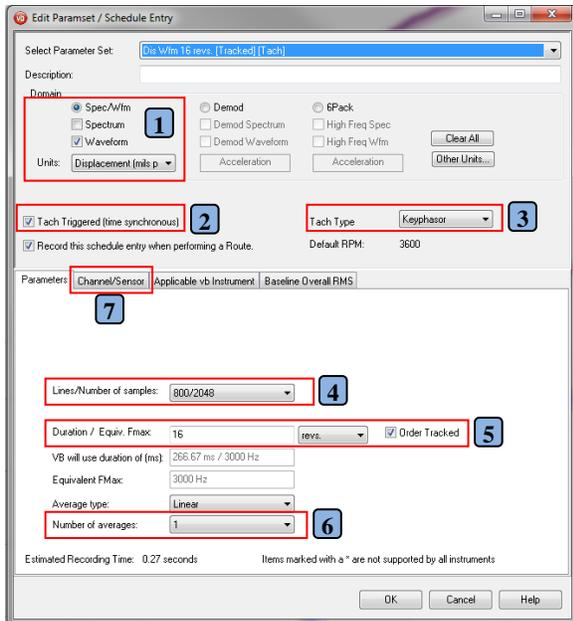

Figure 2: “Schedule Entry” Configuration
4. Configure **“Schedule Entry”** [Waveform/Spectrum]. See **Figure 2**.
Wfm/Spec Configuration Steps (Figure 2):